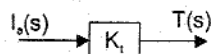

Fig 2.
In equation (7), $I_a(s)$ is the input and $T(s)$ is the output. The block diagram for this equation is shown in fig 2.